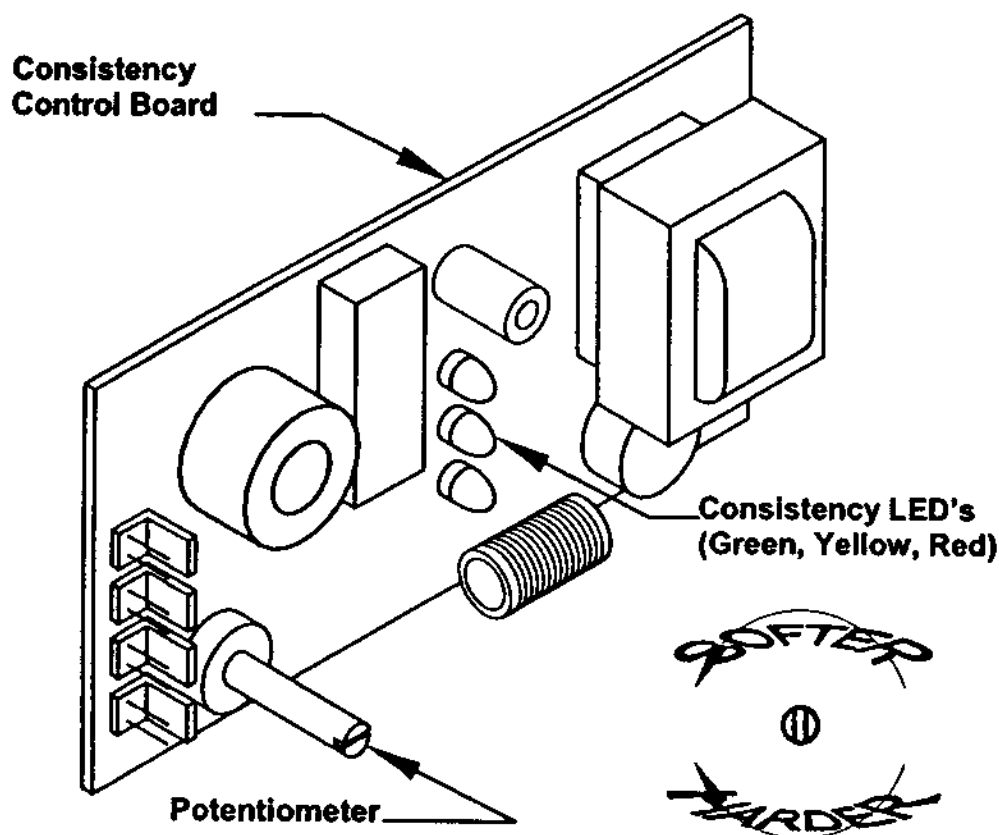

Fig. 30
2. Using a small insulated flat bladed screwdriver, set the consistency controls (potentiometers) to the twelve o'clock position (Fig. 30). Turn the potentiometers either clockwise to make the product harder or counterclockwise to make the product softer. Restore power.
4. The three LED's (green, yellow, and red) in Fig. 30 are used as a reference point to adjust for proper consistency. Initially, all of the LED's are off. This indicates that the mix is too thin. The compressor will now come on.